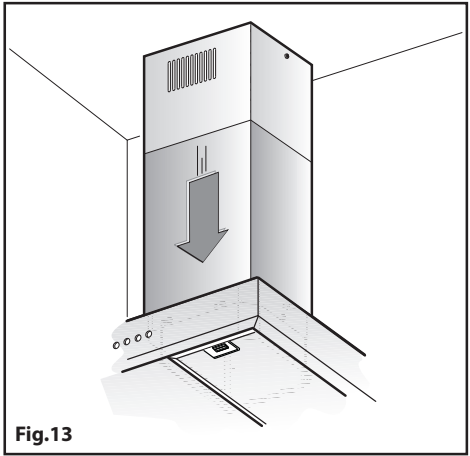

Fig.13
- Remove adhesive tape **L** and rest the lower chimney piece above the cooker hood (**Fig.13**).